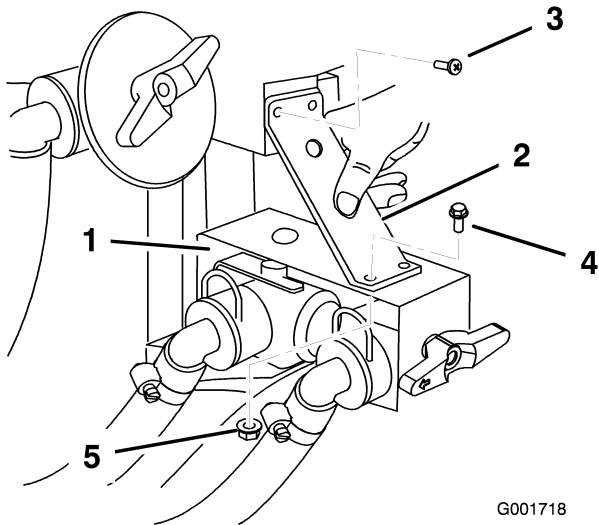

Figure 11
- Install the support bracket over the control valve bracket. Use the two existing screws securing the upper tee assembly to secure upper portion of the support bracket (Figure 11). Secure the lower portion of the support bracket using two flange-head bolts (1/4 x 3/4 inch) and two flange nuts (1/4 inch).